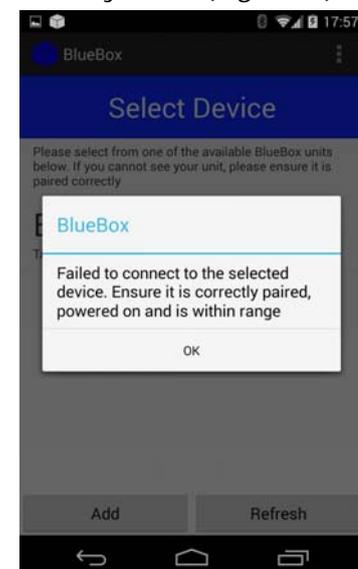

Figure 10
6. In case of failure, check the selected device (*Figure 10*).